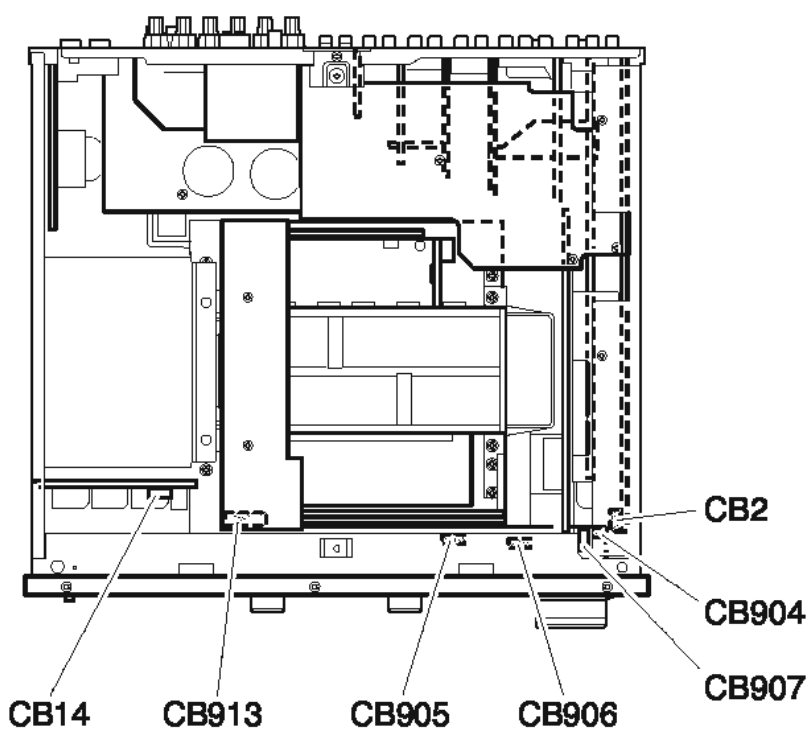

Fig. 2
- b. Remove CB2, CB14, CB904 ~ CB907 and CB913. (Fig. 2)